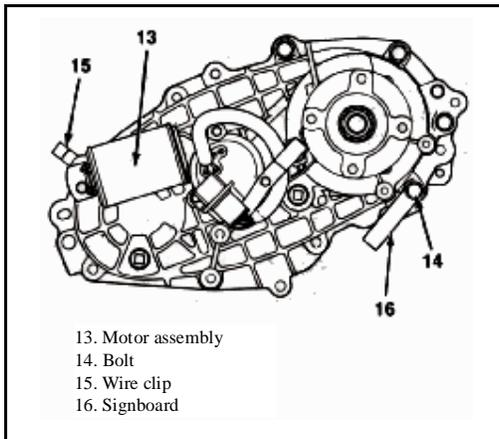
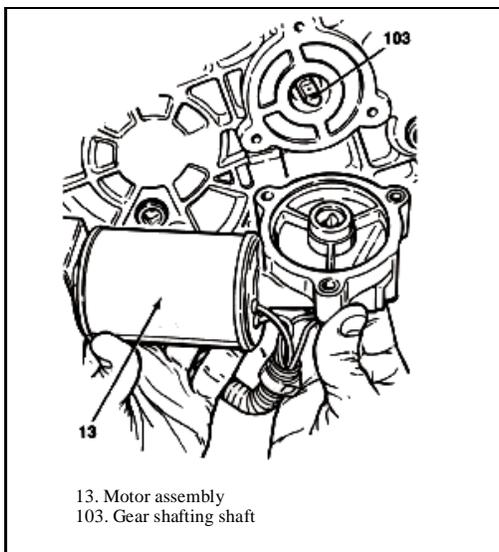

Fig. 5-21
Fig. 5-23
1. Place motor assembly (13) with the triangular groove and gear shifting shaft (103) aligned to each other (see Fig. 5-23). Move the motor and gear shifting shaft to joint them, and contact them with rear cover (25) firmly. Then clockwise rotate the motor until the motor is at correct position (see Fig. 5-21) and aligned to its installation hole.
2. Install O ring (12) to speed sensor (11), and install speed sensor assembly (10) to the rear cover. Install clip (9) to the speed sensor, and install and tighten three bolts (9) to the torque of 8~11N.m.
3. Install bolt (96) and gasket (7) onto clip end of the motor, and tighten bolt (6) to the torque of 8~11N.m.